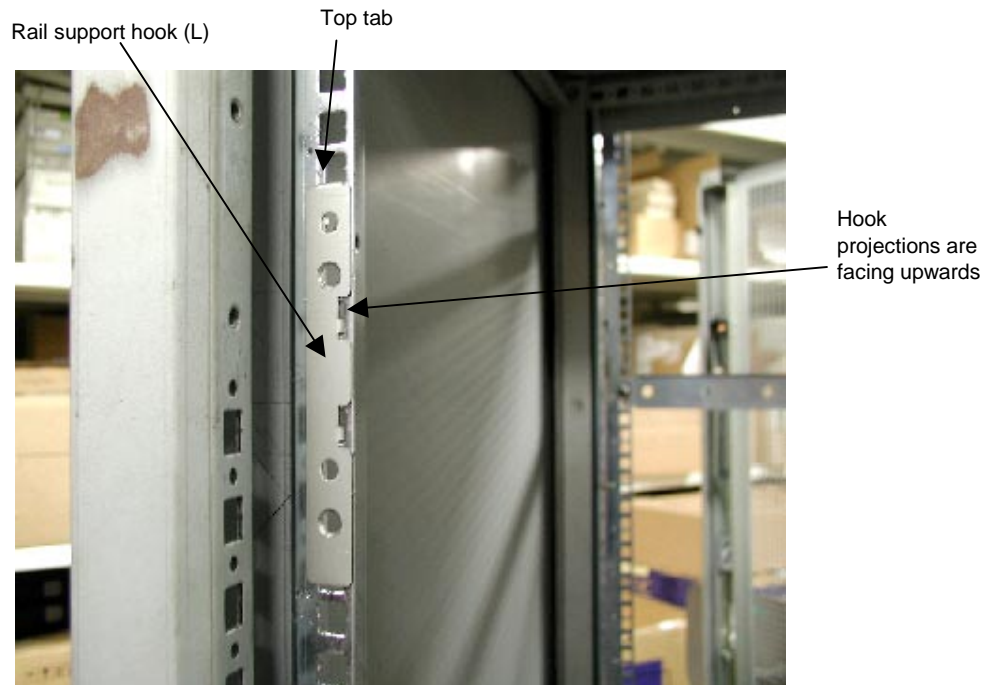

Figure 2-2. Positioning the Left Rail Support Hook
1. Rail support hooks are marked (L) for the left hook and (R) for right hook. With the left rail support hook (L) facing towards the inside of the cabinet, hang the top tab of the rail support hook on the square hole of the rack front rail to which the DAU will be mounted. Be sure the counter-sunk holes in the rail support hook are centered within the square holes of the rack front vertical rail. Also, the hook projections on the rail support hooks should be facing upwards. See Figure 2-2.